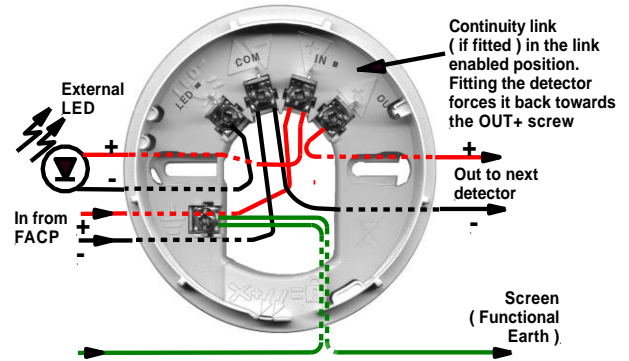

Figure 1: Wiring Diagram showing Single Remote LED
4. Cable to the base as shown in Figure 1. The earth terminal is provided for connecting the screen or functional earth as required.
If the locking mechanism of the Orbis LX base has been activated in error the base may be converted to a permanently non-locking base by removing the detector and cutting out the small portion of the rim marked with a cross-hatch in Figure 1.